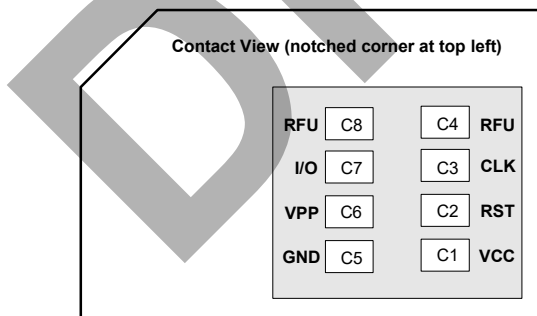

Figure 2-3: SIM Card Contacts (Contact View)
a. See Figure 2-3 on page 24 for SIM card contacts.